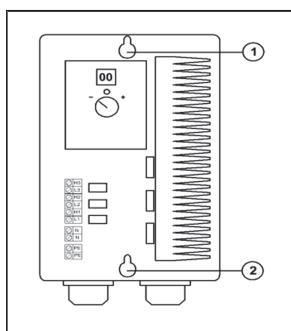

Fig. 1: Assembly diagram
The RLM-3x40 has a top cover, which must be removed for assembly, as described under 2.3. First insert two screws into the wall for mounting. The control unit is then attached, using these screws, by the recess (fig. 1, items 1 and 2).